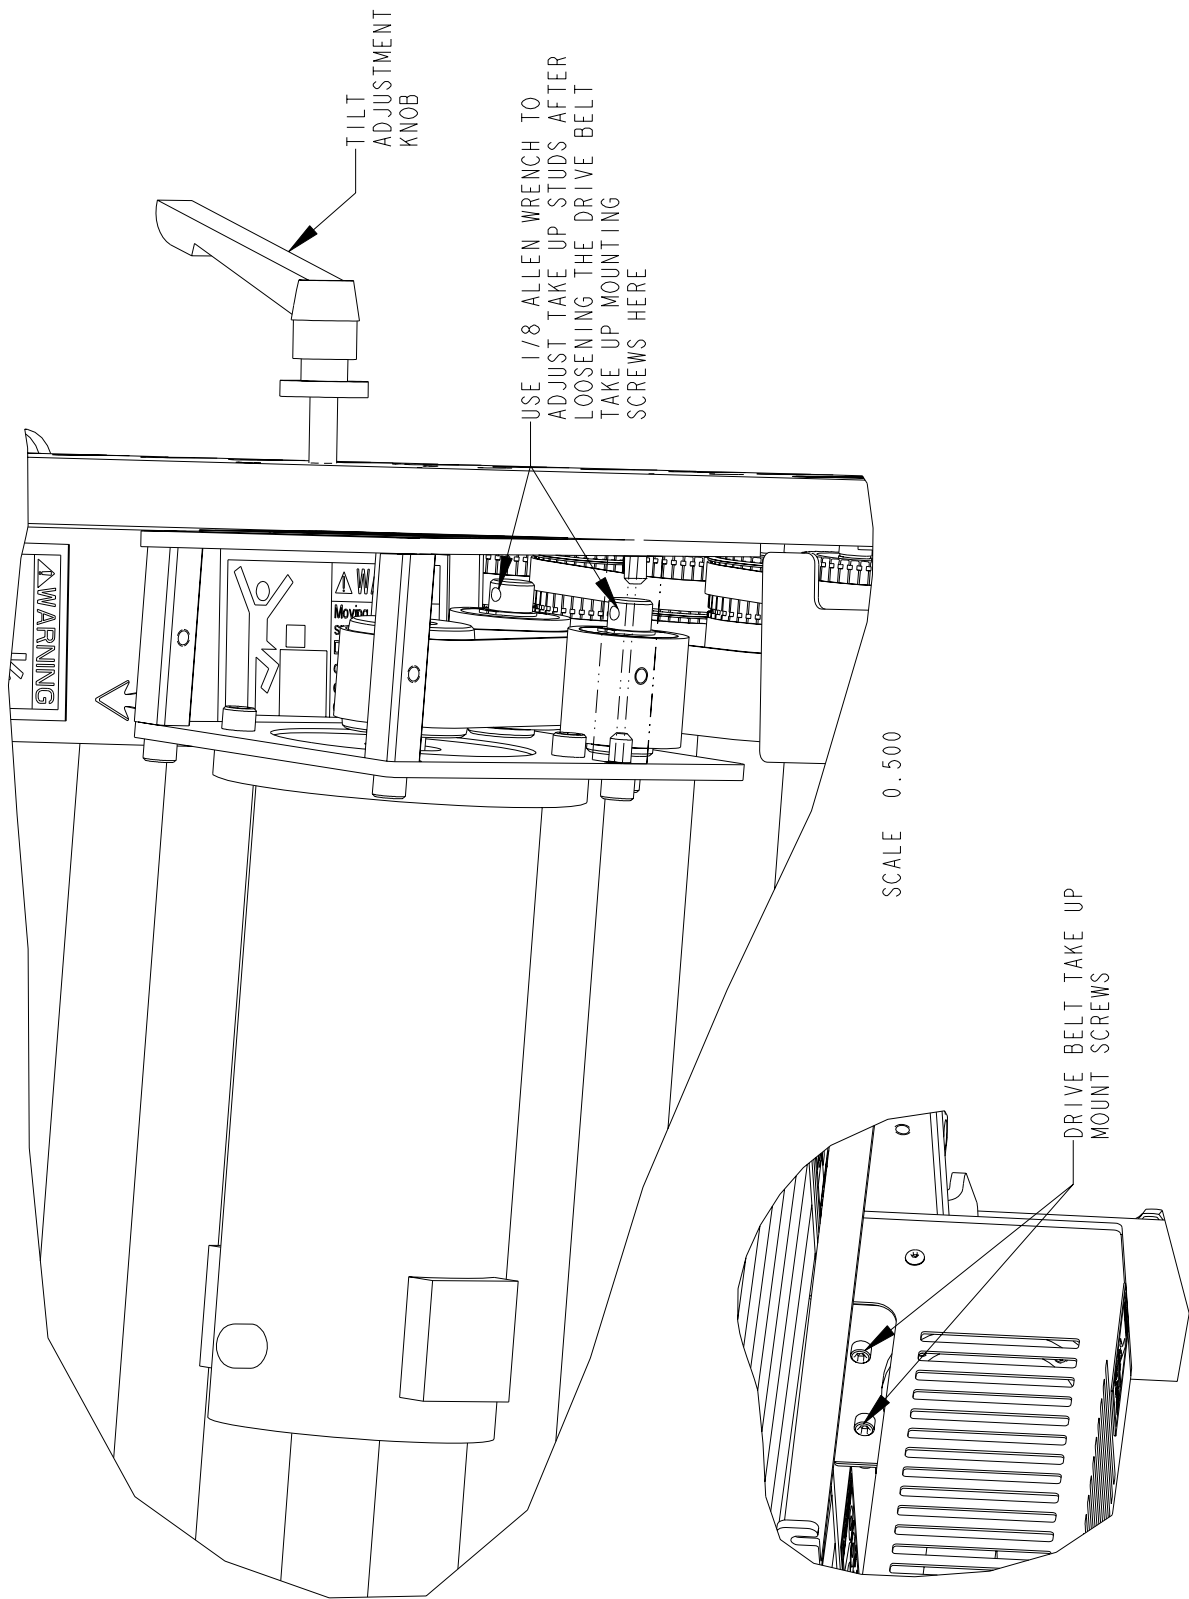

FIGURE 7.0
7.2 MAIN DRIVE BELT ADJUSTMENT (see Figure 7.0)
20. Find the take-up stud tool holes and use a 1/8" Allen wrench to hold the take-up roller stud in place as shown in (**Figure 7.0**)